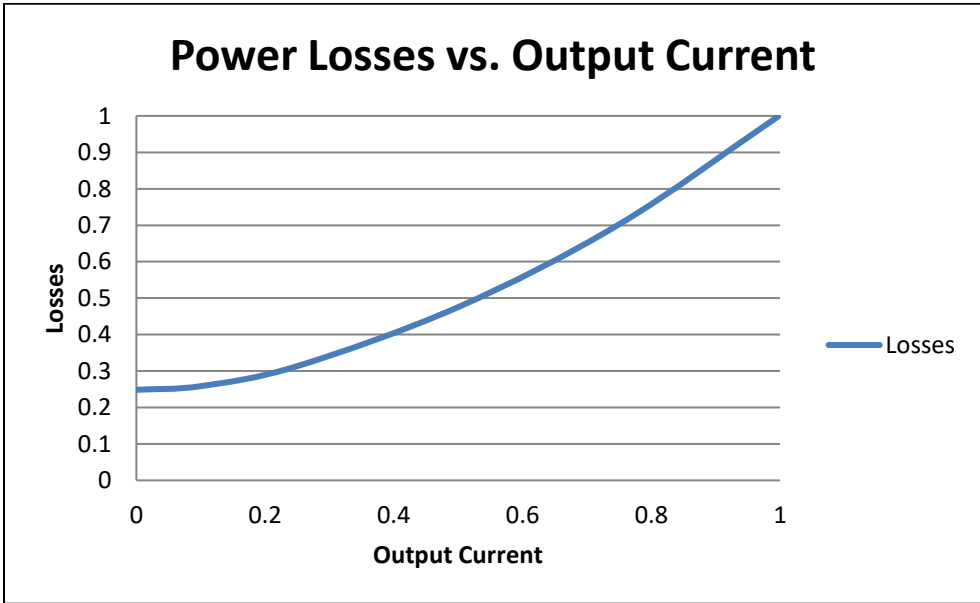

Figure 1.5: Power Losses vs. Output Current
Figure 1.5 shows typical Losses vs. Output Current. In this graph, the horizontal axis shows the Output Current of an AHF normalized to the full load current (e.g. for a 300 amp AHF, 1 represents 300 amps, 0.5 represents 150 amps, etc.). The vertical axis shows the Losses of an AHF normalized to the full load losses (e.g. for a 300 amp AHF, 1 represents 5100 watts, 0.5 represents 2550 watts, etc.). This graph shows that a system operating at 50% of the rated current will have about 50% of the full rated power losses.
Figure 1.5 there are appreciable losses when no corrective current is being supplied by the AHF. Such losses in the HPS TruWave AHF are lower than the industry norm for active harmonic filters; however, they do represent losses for doing little or no useful current correction. For such a condition, HPS offers a power saving mode that can be programmed by an operator via the front panel or over the Ethernet link. If this feature is selected, when the load is shut off or greatly reduced, the AHF will shut off its power inverter and cooling fans, but keep its internal components charged and ready to go. When the load returns, the system will automatically start full operation within a fraction of a second (no initialization or pre-charging cycle required). While in this “idle” state, the system’s losses are reduced to less than 100 watts for all models. The Front Panel will display “IDLE” as the control mode while in this state. To utilize this power saving mode, should your facility have significant periods of time when the load the AHF is correcting for is shut off, see the “UNIT DISABLED IF LOAD POWER BELOW THIS %” parameter in section **Error! Reference source not found..1** of this manual for information on setting up this feature.
- **Figure 1.5** can be used in conjunction with the full load loss information to determine actual power losses.